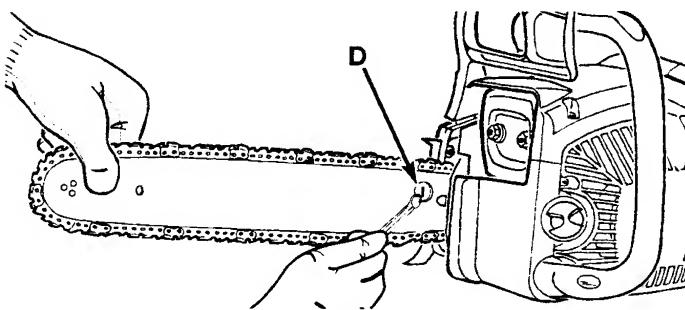

Fig. 22
1. Loosen bar nut, then hold nose of guide bar up and turn adjustment screw (D) CLOCKWISE to increase chain tension. Turning screw COUNTERCLOCKWISE will decrease amount of tension on chain. Ensure the chain fits snugly all the way around the guide bar (Fig. 22).